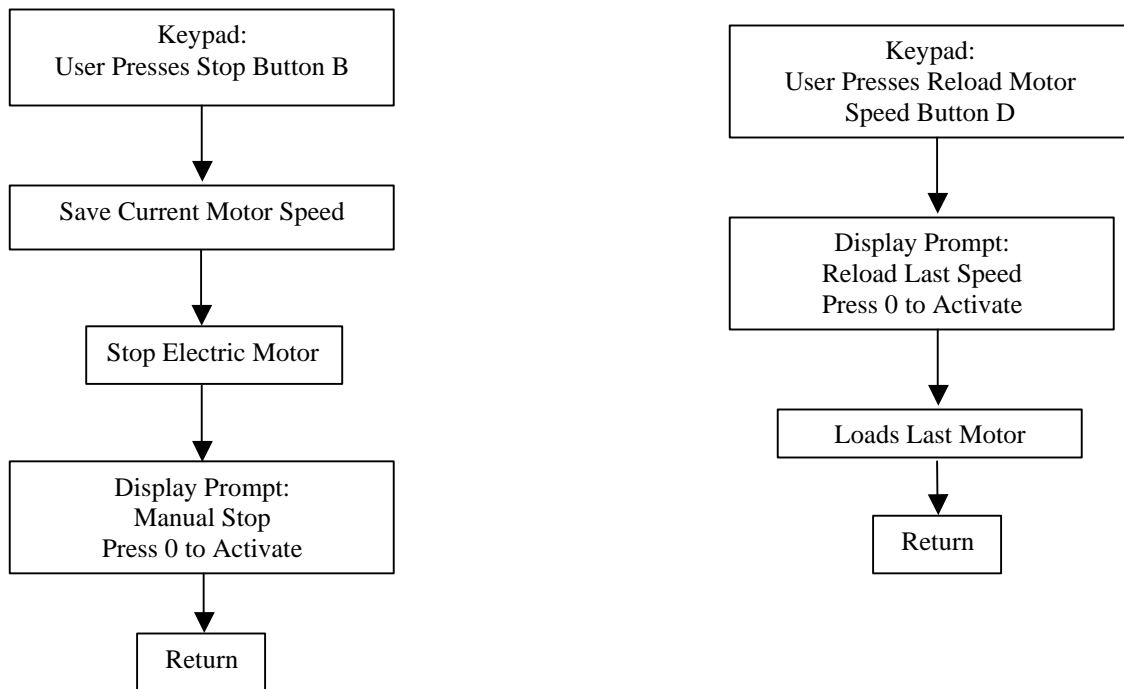

Figure 10.1
User is able to stop and reload the motor speed manually using keypad input. If the user presses the stop button (B) on the keypad, the Stop software is called and follows the software flowchart on the left in Figure 10.1. If the Reload Motor Speed Button (D) is pressed on the keypad, the Reload Motor Speed software is called and the flowchart is on the right in Figure 10.1. At the end of both flowcharts there is a return, which means that both software modes return to the Check Control Variable in the Fixed Navigation Mode seen in Figure 19.1 in Appendix A.